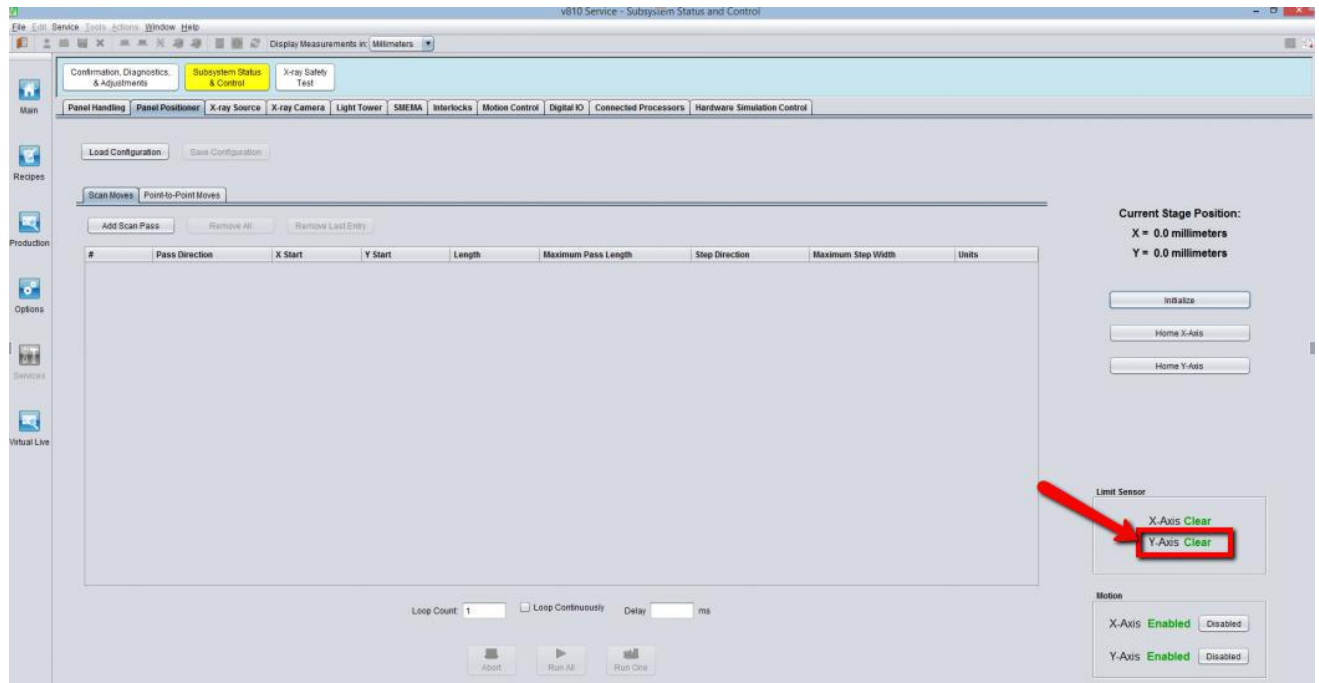

Figure 13 Y-axis limit sensor in “Clear” state
- a) DO not move XY Stage and may check Limit sensor status at Panel Positioner where must stated as “Clear” during home position as shown in Figure 13.